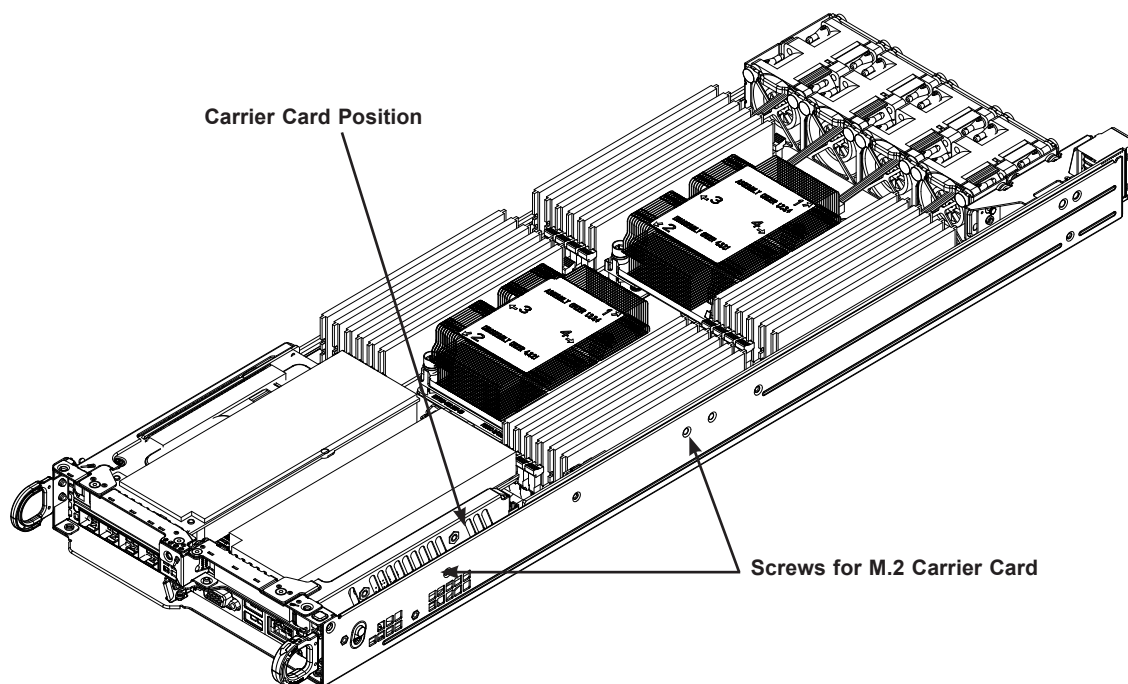

Figure 3-11. Locating the M.2 Carrier Card Slot and Screws
3. Remove the two screws from the left side (viewed from the chassis front) of the node chassis that secure the M.2 carrier card to the node chassis. (Figure 3-11)